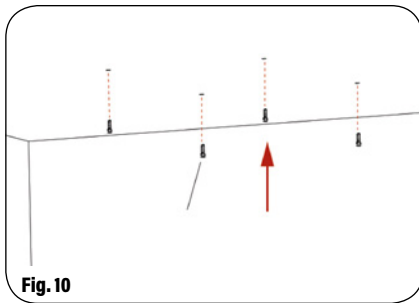

Fig. 10
1. Drill holes in the ceiling based on the position and size of the holes in the surface mount kit. Ensure ceiling is sturdy enough to hold the weight of the LED panel. (Fig. 10)